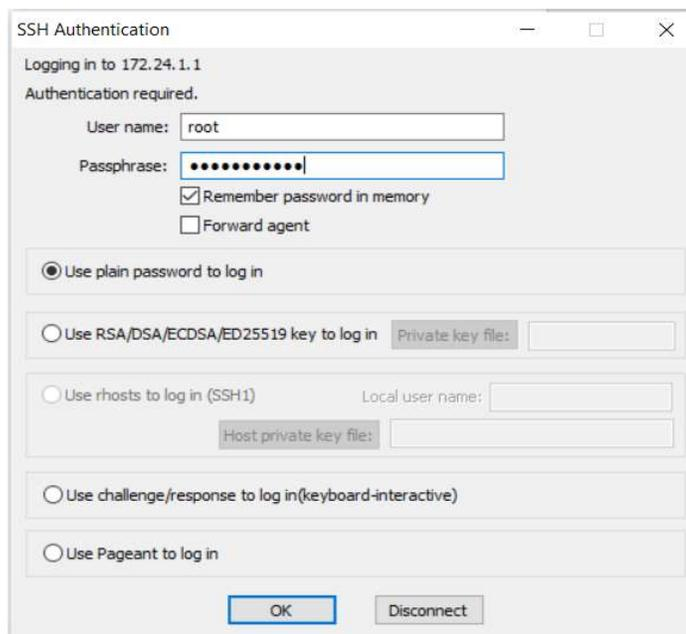

Figure 21: SSH Login Details
- Enter the Telematics control unit user name and password as shown in the Figure 21